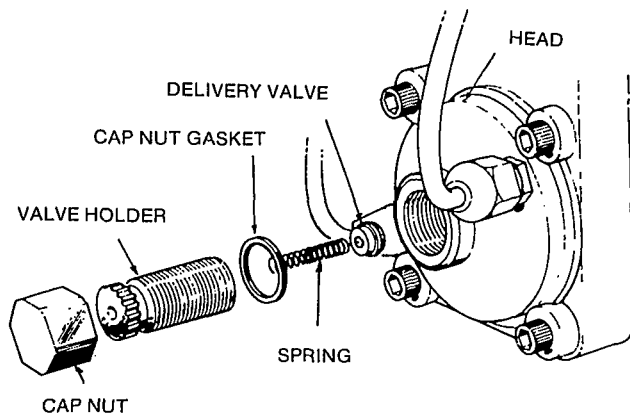

FIGURE 24. LATE MODEL DELIVERY VALVE ASSEMBLY
1. Install No. 12 timing button in new injection pump. Remove delivery valve cap nut and holder, take out spring, and replace valve holder and cap nut (Figure 24 and 25).
10. On late model (Figure 24) injection pumps remove delivery valve capnut and holder to install spring. Before installing delivery valve spring push delivery valve back onto its seat using your little finger. Install spring and valve holder.